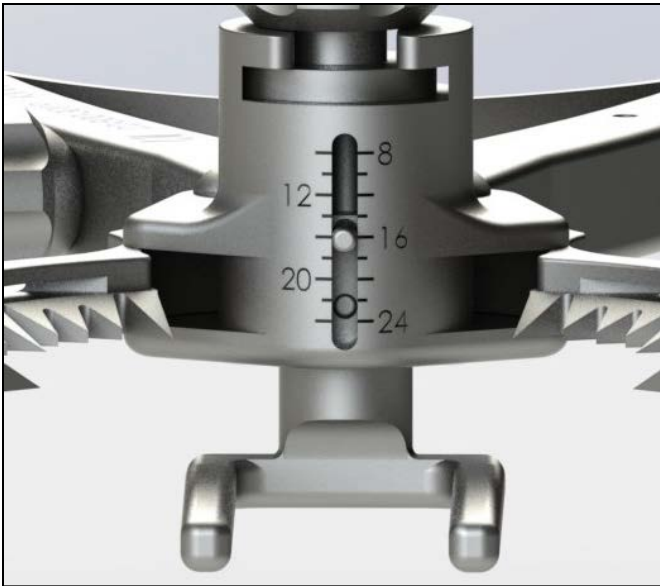

Figure 1. Set height of patella resection guide.
- Set height of patella resection guide (part no. 22-800-3019) to correspond to desired **residual** patellar thickness after resection (a minimum residual thickness of 15mm is recommended). *Example: If thickness of native patella is 25mm and a 9mm thick patellar button is desired, then set height to 16mm (25mm – 9mm = 16mm). Therefore, 16mm is the residual thickness of patella left after resection (Figure 1).*